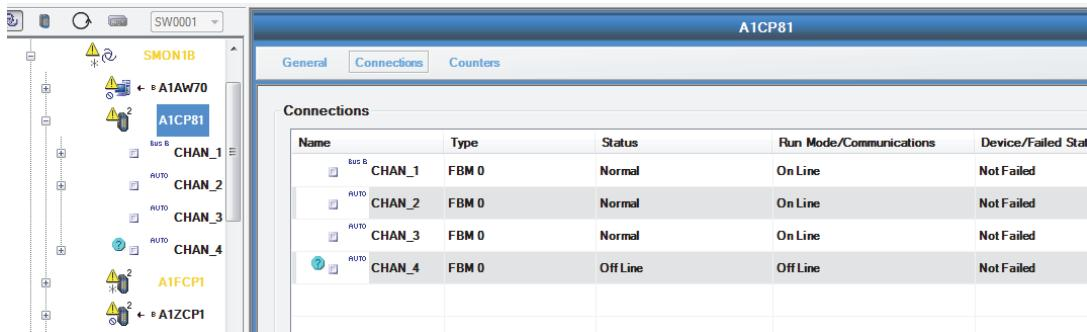
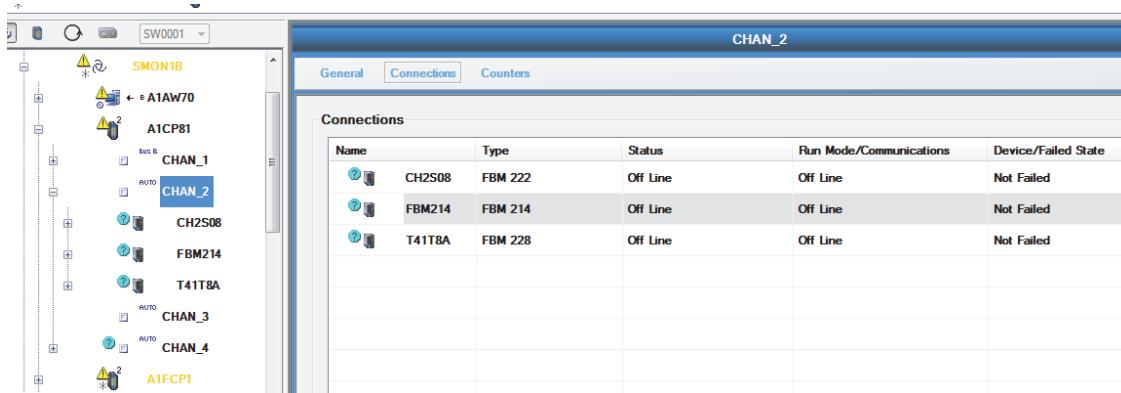
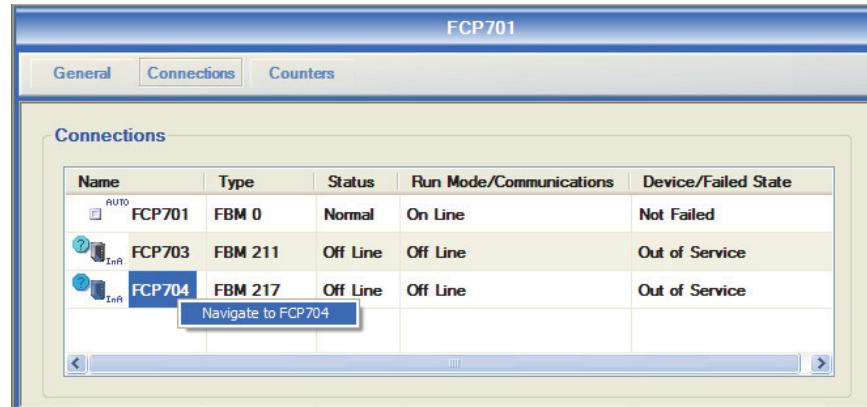

Figure 5-13. Connections Tab for an FCP280
Figure 5-14. Connections Tab for an FCP280's Primary ECB
Figure 5-15. Connections Tab for an FCP270
For a control processor, the Connections tab lists the attached field devices by name, type, status, run mode, and failure mode (Figure 5-13, Figure 5-14, and Figure 5-15).
4. Double-click a device name, or right-click the name and choose **Navigate to <Name>** to go to the selected FCM or FBM (**Navigate to FCP704** in Figure 5-15).